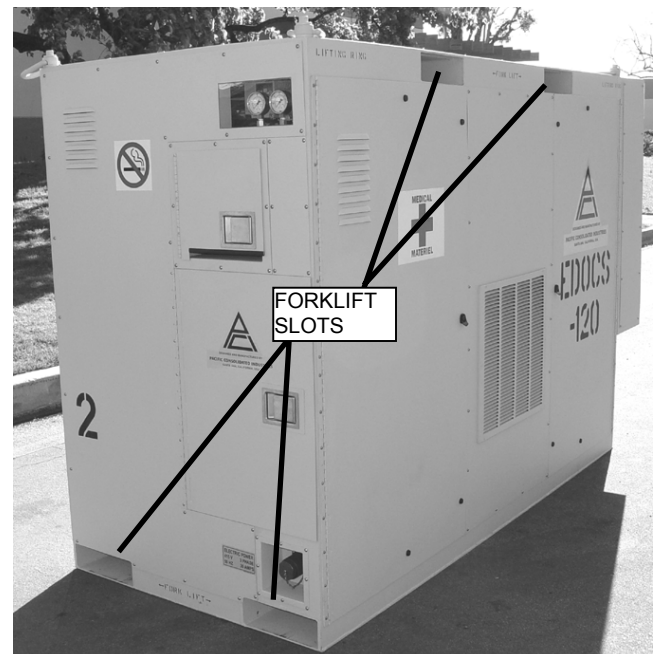

Figure 7. Forklift Slots.
Forklift slots are provided on the bottom front end and top sides of the EDOCS-120 (see Figure 7). The slots are large enough to accommodate up to a ten (10) standard forklift. The EDOCS-120 must not be lifted with less than a two (2) ton forklift. The bottom front slots allow the EDOCS-120 to be end loaded onto a truck or trailer bed. The top side slots allow the EDOCS-120 to be side loaded onto a high-sided truck or trailer bed. The width and length of the unit allows it to fit onto a standard 1.5 ton military trailer. The EDOCS-120 can be secured to the vehicle by strapping through the top forklift slots or using the tie-down rings on the top corners of the frame.